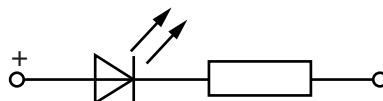

Fig. 2.2
- The 1  $\text{k}\Omega$  resistor should be soldered to the negative lead of the LED. The combination should be provided with terminals suitable for the connecting leads, with the positive terminal clearly labelled, as shown in Fig. 2.2.